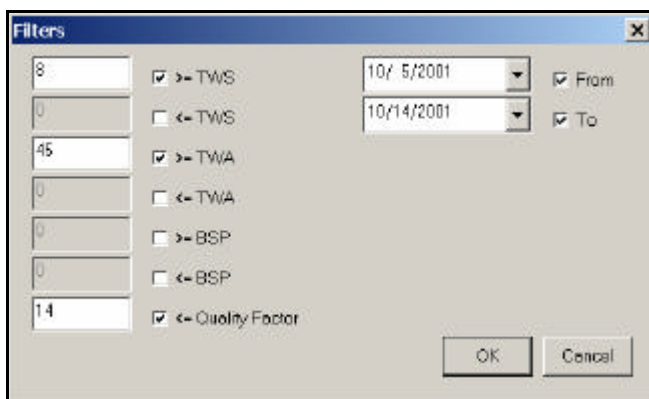

Figure 5-17. Filters Screen
4. You can further refine your analysis by using filters to narrow the number of data test rows displayed in the Data Tests screen. The Filters screen (Figure 5-17) enables you display only those tests that fall within the specific criteria you select. For example, you might only want to see tests that were run from October 5th to October 14th 2001. To use filters, click **Filters** on the Data Tests screen. The Filters screen is displayed.